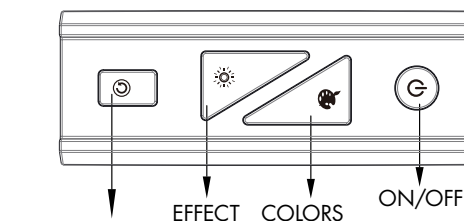

Fig. 2
3. The remote has two buttons (Fig 2).